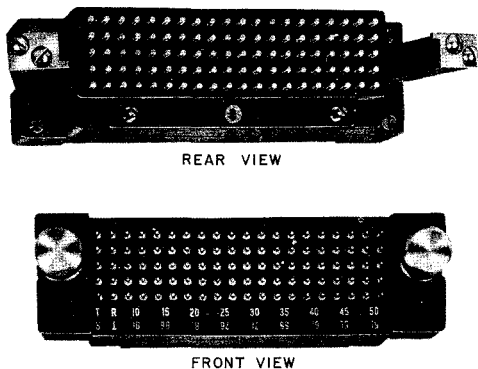

Fig. 1—G Test Connector—Front and Rear View
2.01 The *G test connector (AT-8353)*, shown in Fig. 1, consists of 100 contacts mounted in a plastic housing. Each contact consists of a gold-plated brass plunger, a gold-plated brass spike, and a gold-plated music wire spring which bridges the plunger to the spike. The spring also presses the plunger against the recessed test button on the 302 type 3 connectors. The spikes on the face of the test connector thus protect the gold-plated buttons of the 302 connector from damage when a B test point is used.